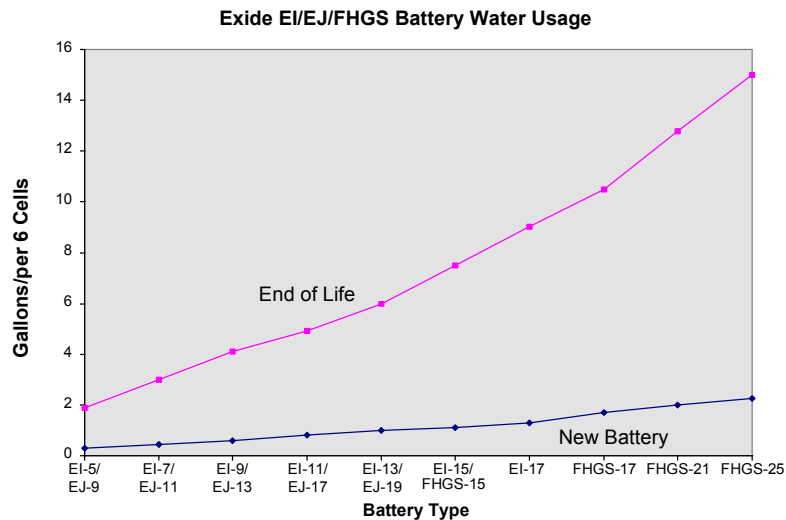

Figure 2-10
- h. Add distilled water to the cells (Exide only) to bring the electrolyte level to the HIGH mark on the cell jar. The FHGS cells have funnels built into the flame arrestors. To add water, remove the dust cap from the arrestor. Record the amount of water added to all 6 cells in the aid log. The estimated amount of water to be added to all six cells is listed in Figure 2-10.